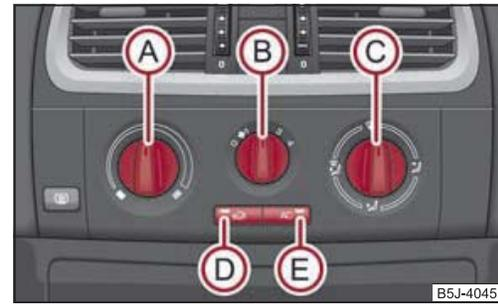

Fig. 92 The air conditioning system: Control elements
The air conditioning system operates when switch  ⇒ fig. 92  is pressed and the following conditions are met:
- Turn the control dial  ⇒ fig. 92 to the right in order to increase the temperature.
- Press the button   ⇒ page 80, fig. 92. The warning light lights up in the button.
- Controls Ⓐ, Ⓑ, Ⓒ and the buttons Ⓓ and Ⓔ ⇒ page 80, fig. 92.
- Press the button   ⇒ page 80, fig. 92, the warning light lights up in the button.
The recirculated air mode is switched off automatically if the air distribution control  is in position  ⇒ page 80, fig. 92. You can also switch recirculated air mode on again from this setting by repeatedly pressing pushbutton .